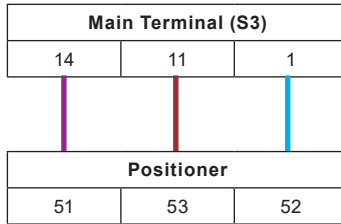

Fig. 26 Positioner Installation Terminal Diagram 8 kN+ (1798 lbf+)
- 8 kN+ (1798 lbf+): Connect the cores of the potentiometer wiring harness to the main terminal rail (Fig. 26), and connect the potentiometer plug to the potentiometer socket on the positioner card referring to Fig. 24 "Installation of Positioner Card" for product orientation. The potentiometer wiring harness should be fed through the center of the positioner card as shown
- 8 kN+ (1798 lbf+): Connect the DE wiring harness as indicated in Fig. 26 "Positioner Installation Terminal Diagram (8+ kN (1798 lbf+))"